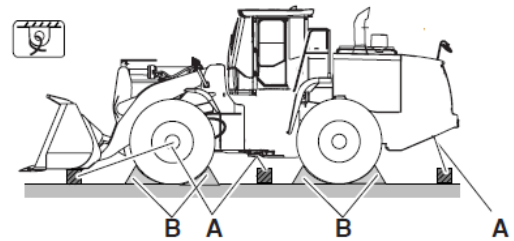

Fig.2
- Block tires (B, Figure 2).
- Tie (lash) the wheel loader down using attaching points (A, Figure 2) intended for this purpose, so it cannot tip or begin to roll.